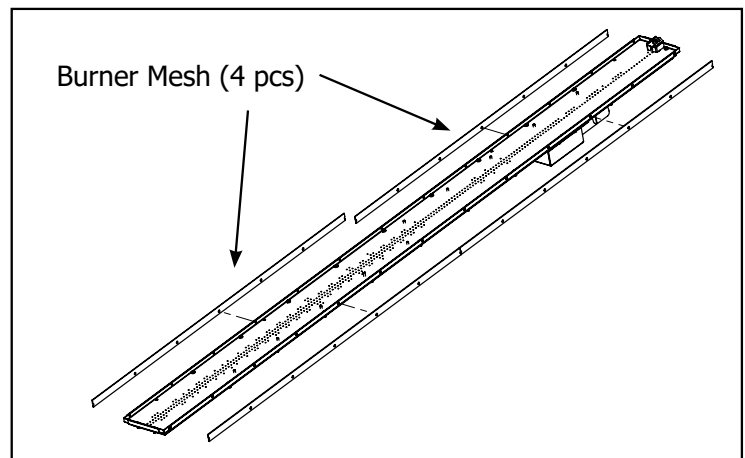

Figure 12: Burner Mesh Removal (LP ONLY)
8. **LP ONLY:** Using a T20 screwdriver remove the 4 pieces of mesh from the sides of the burner (figure 12). **The mesh retaining screws must be re-installed.**